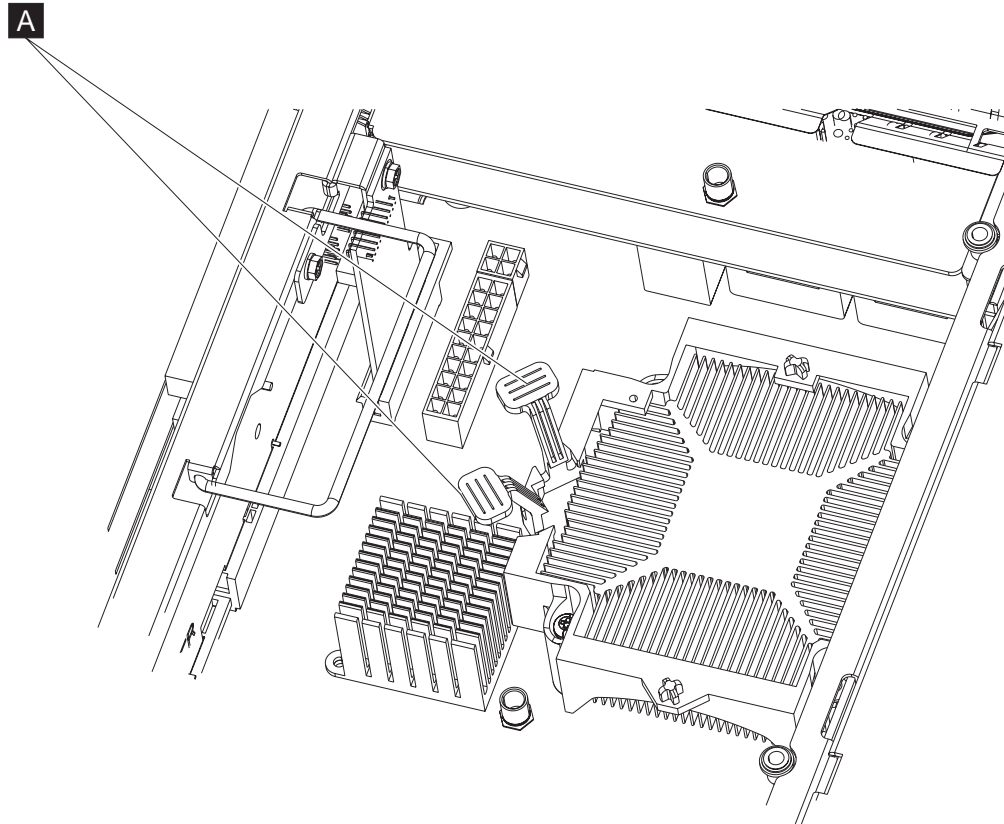

Figure 28. Processor fan and levers
3. Press down on the levers ( **A** in Figure 28) on the processor heatsink to release the connections.